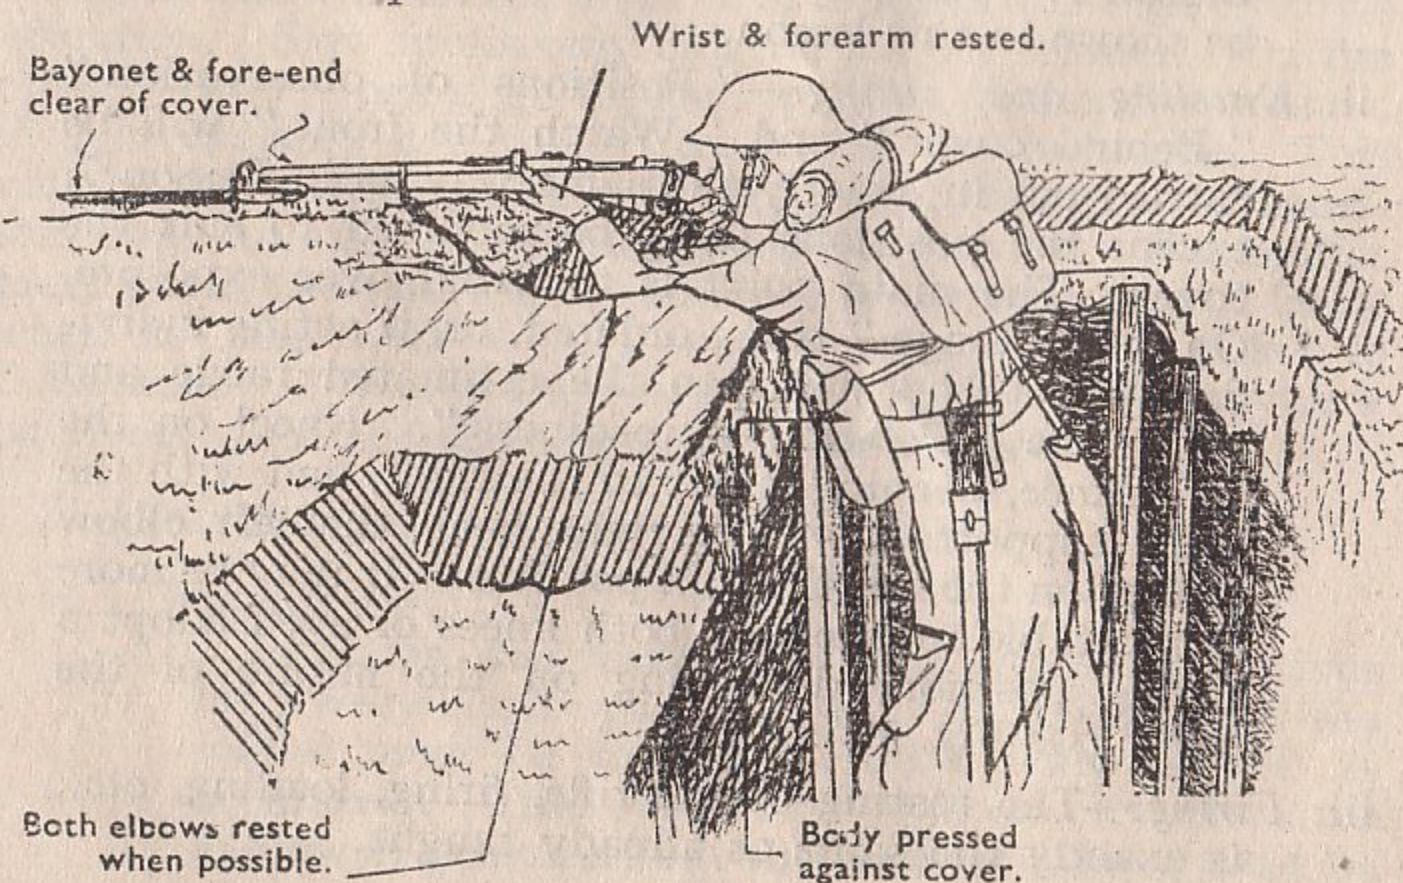

Fig. 12
i. *Explain and demonstrate.*—"Positions of observation" and "Behind cover" and the actions of "Watch the front" are the same as for kneeling. Position of Readiness as for kneeling with probably slight differences such as both elbows rested, as in a trench. The body pressed against the cover if possible (see Fig. 12).